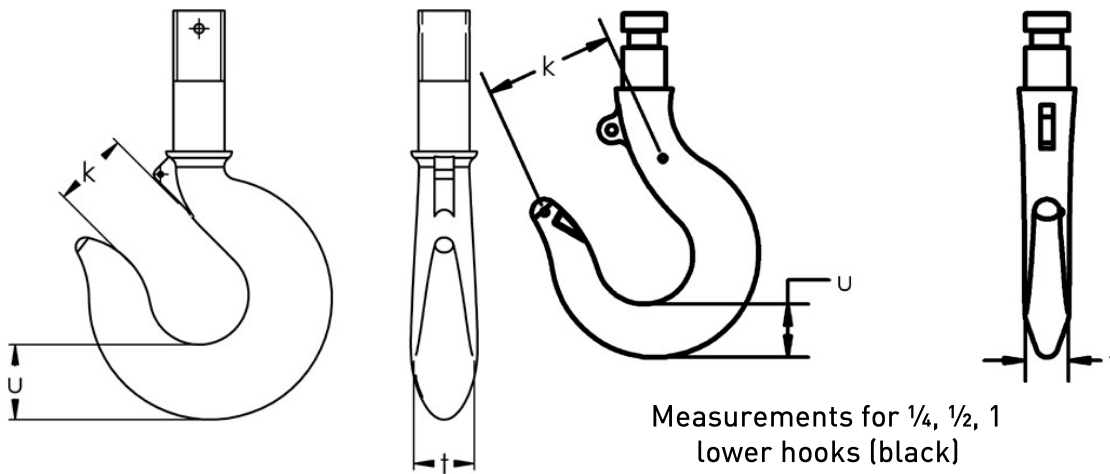

Figure 5.7.3b
*This measurement is different, see figure 5.7.3b